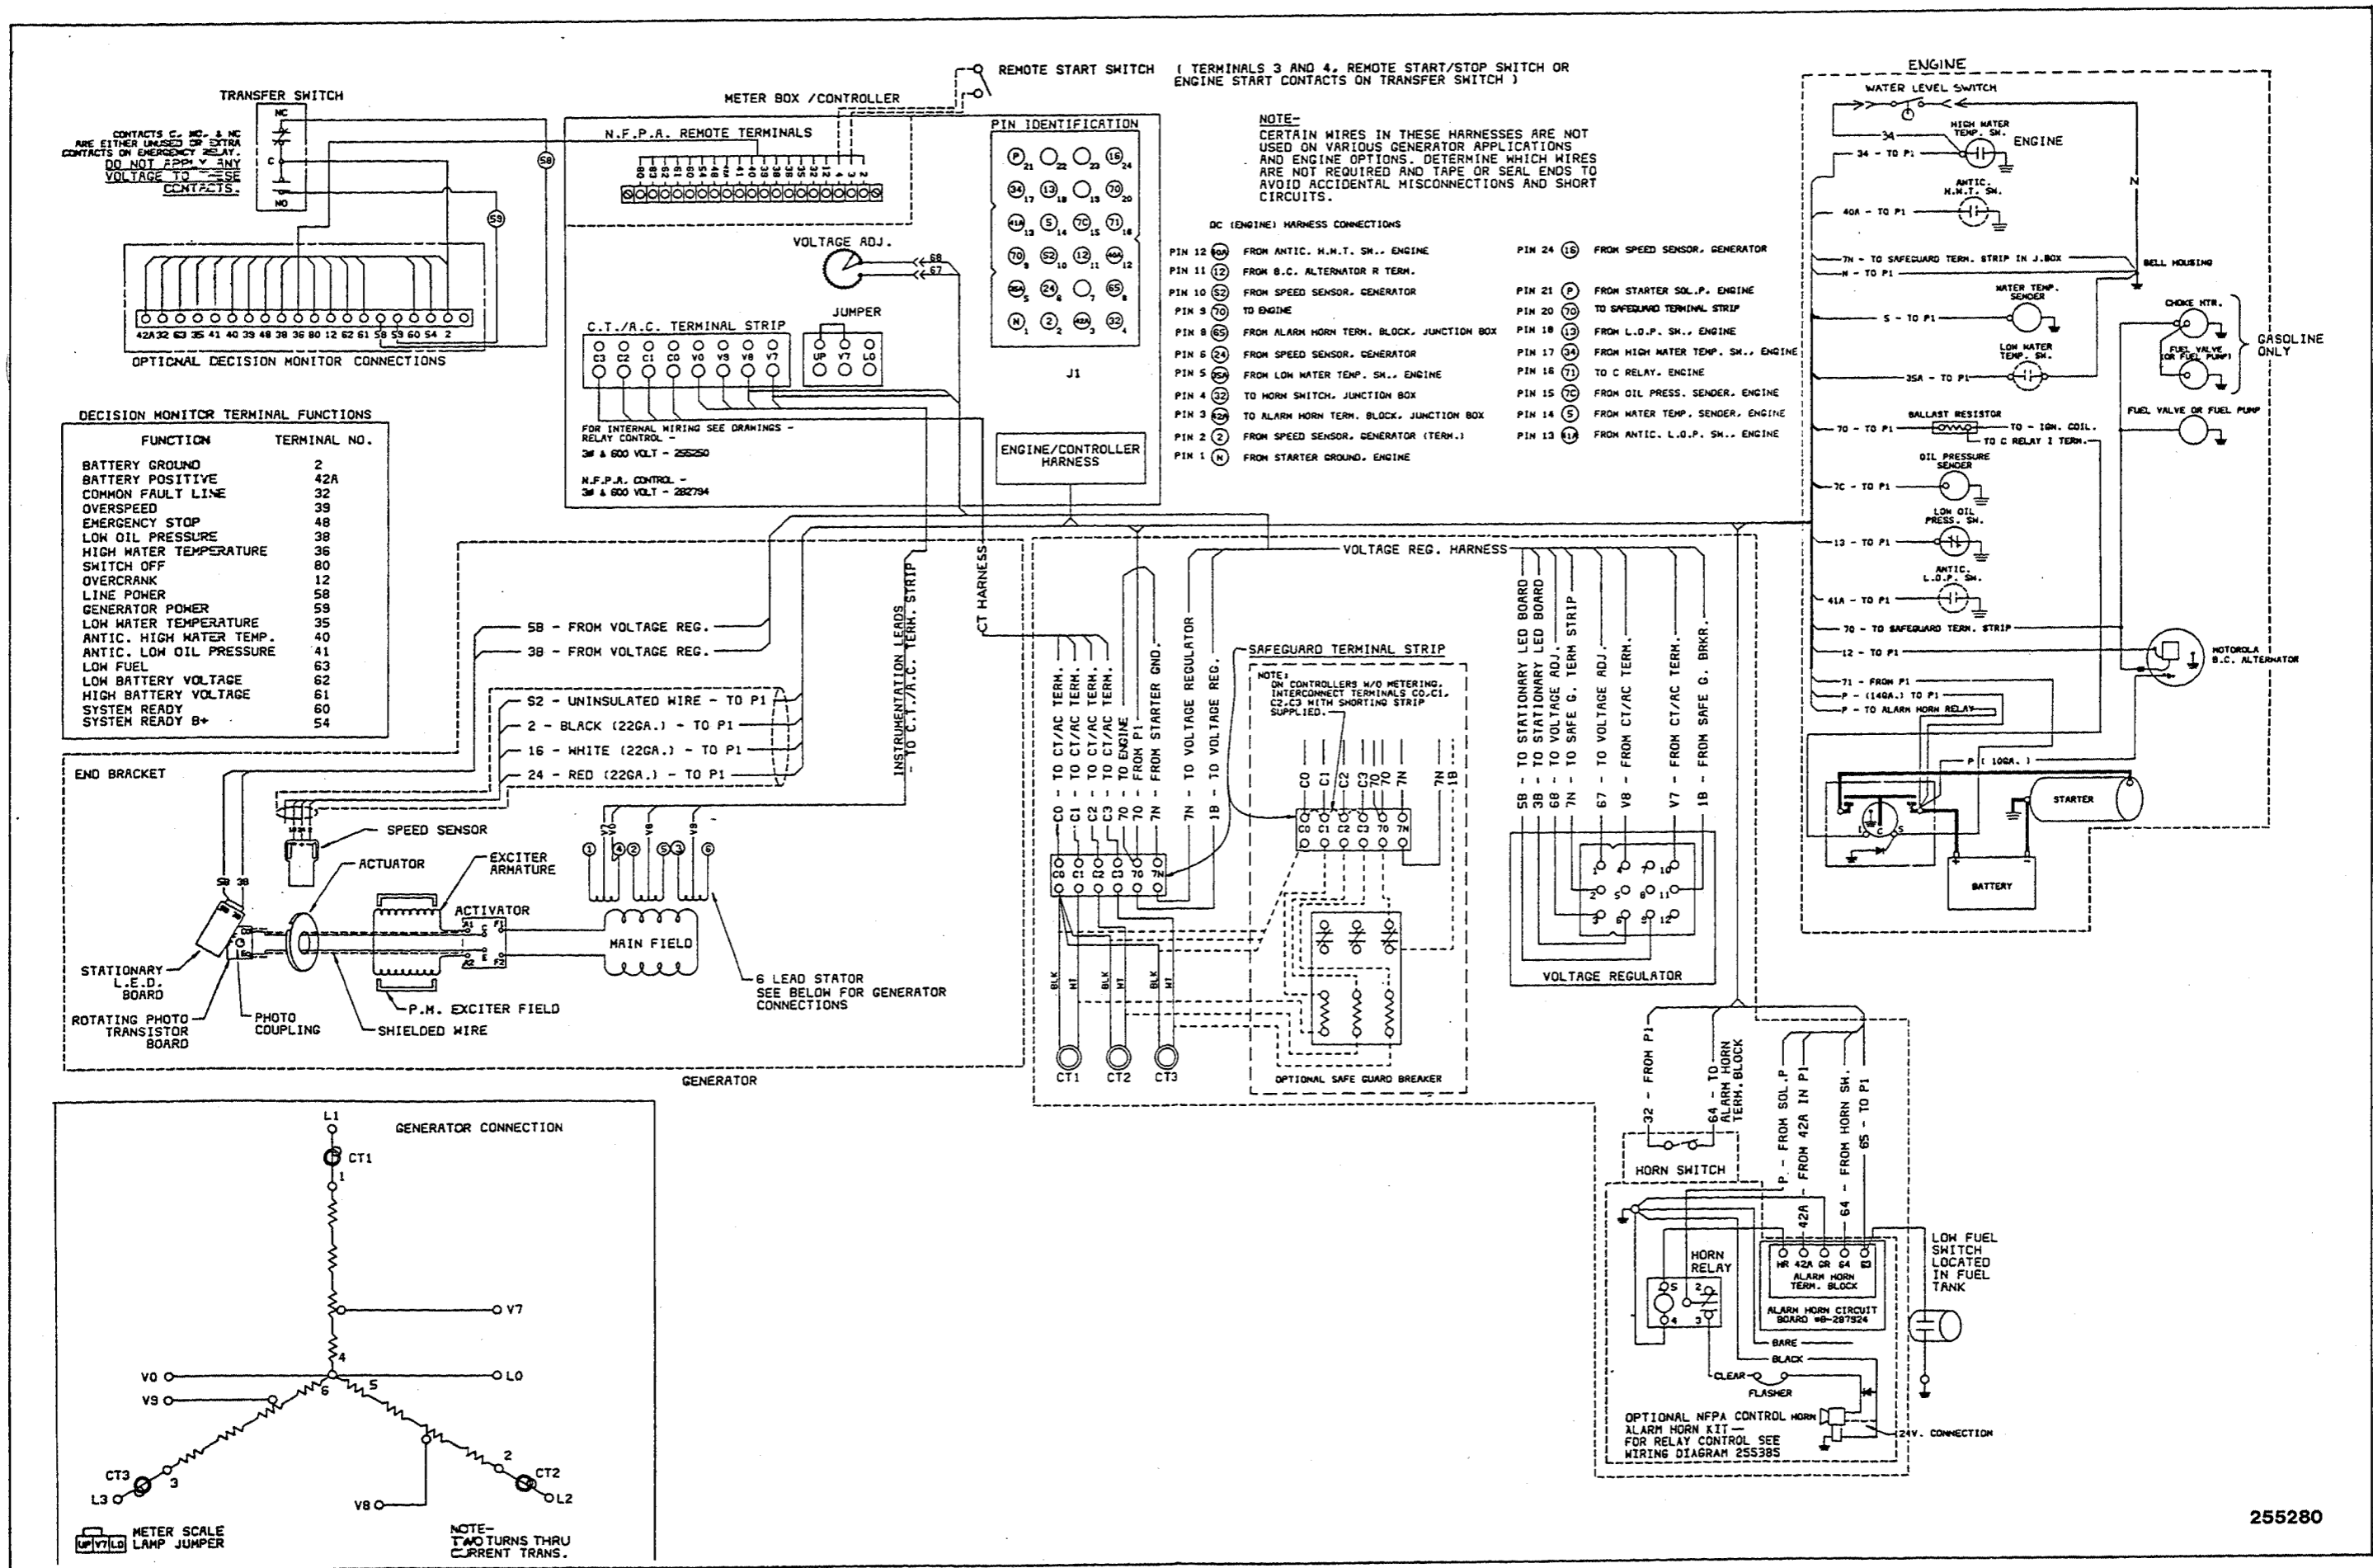

Figure 7-4. Ford CSG-649 Gas/Gasoline w/Breaker Ignition, 600-Volt
- Figure 7-4. Ford CSG-649 Gas/Gasoline w/Breaker Ignition, 600-Volt